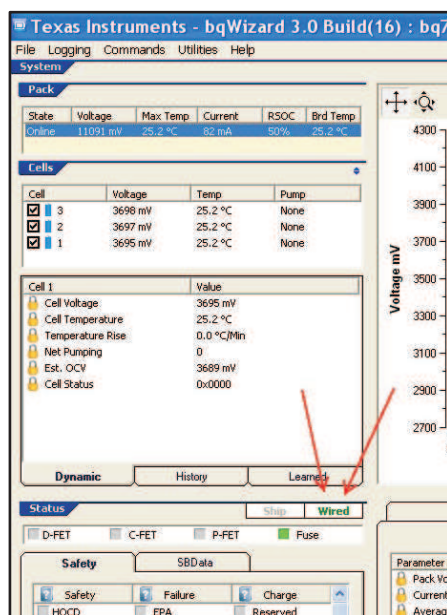

Figure 7. Wired Bit Status Display
1. The device must have its Wired bit set. This can be done by pressing the F7 key (see Figure 7). If the word “Wired” is green, then the bit is set.